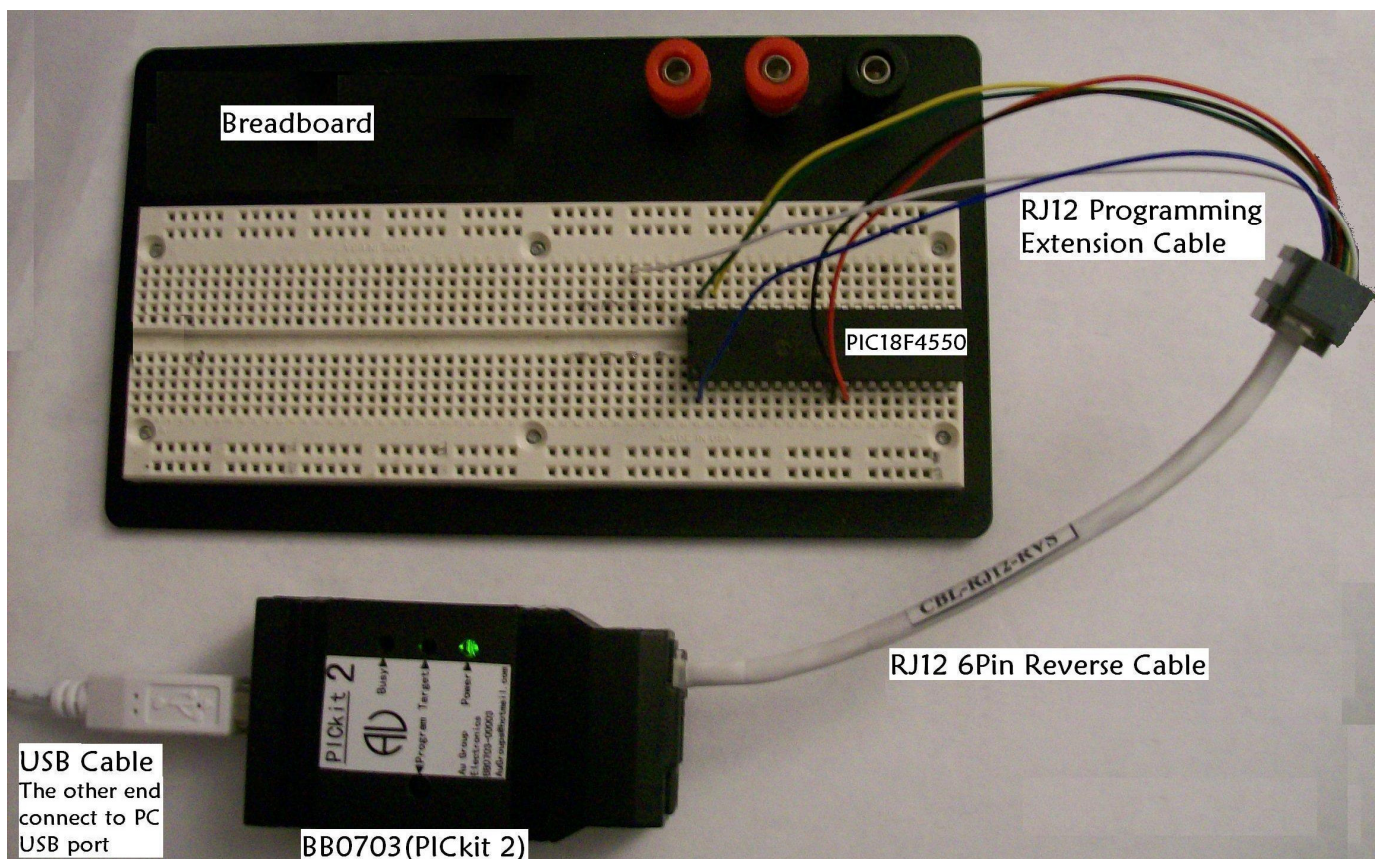

Figure 4 Demo connections with breadboard (using PIC18F4550)
After the target chip is connected as figure 4 shows, you may program the chip through one of the following application software: by using PICkit 2 Programmer or by using MPLAB IDE.
5. If more chips will be programmed, repeat 1-4 after a new blank-chip is installed as shown in figure 4. If same hex is used, you don't need re-load the hex file.